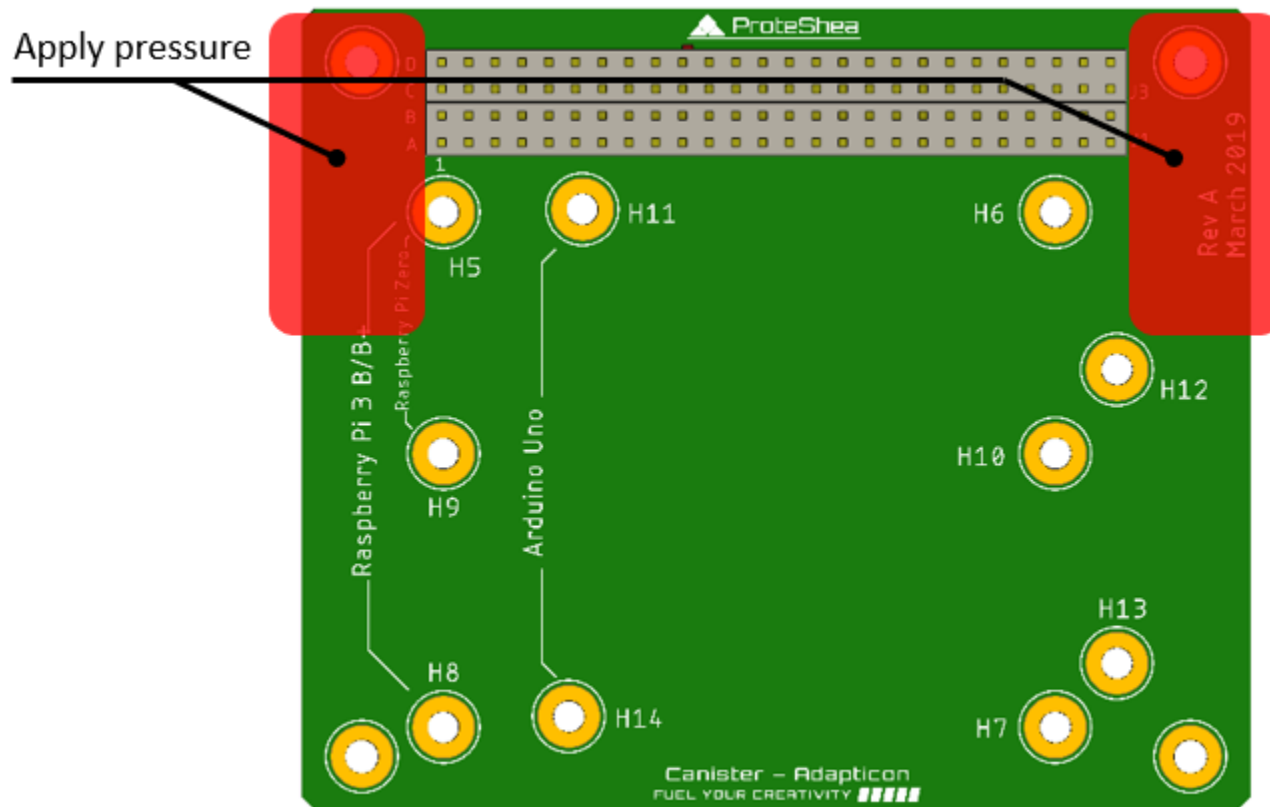

Figure 11. Areas to Apply Pressure for Installation or Removal.
5. Use two hands and apply even pressure on both sides of the Canister (areas marked in red in Fig. 11) to press into Main Interface board or another Canister board.
2. Use two hands and apply even pressure on both sides of the Canister (areas marked in red in Fig. 11) to pull the board vertically out of the Main Interface board.